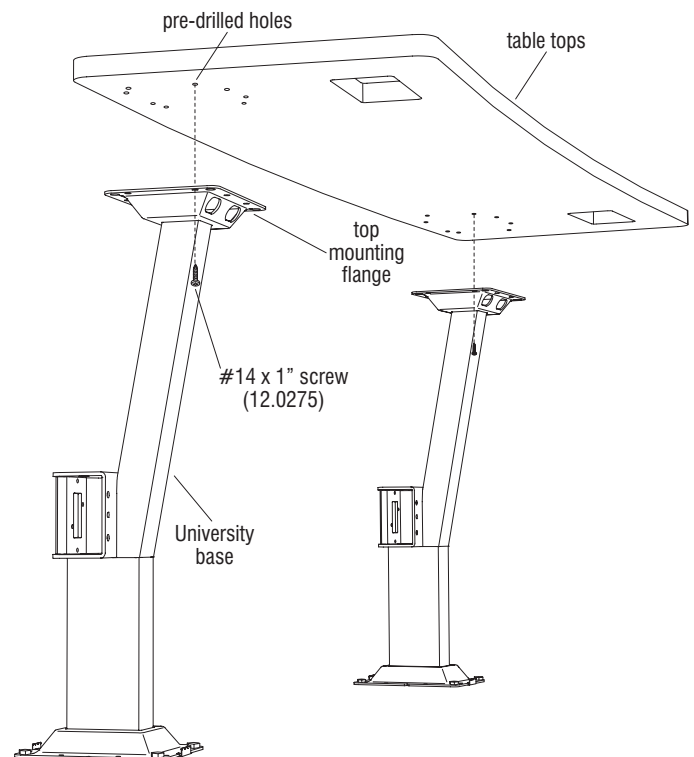

Figure 5
11. For University table tops with no power, carefully position the table top(s) onto the University bases, at the proper location according to the space-planning layout. Fasten each top mounting flange of the base to the table top with **one** #14 x 1” screw provided and torque to 100 in/lbs. Make sure to pre-drill holes to 1/2” in depth or less to avoid piercing through table top (Figure 5).
For University table tops with undersurface power & data, carefully position the table top(s) onto the University bases, at the proper location according to the space-planning layout. Fasten each top mounting flange of the base to each table top with **one** #14 x 1” screw provided and torque to 100 in/lbs. Make sure to pre-drill holes to 1/2” or less in depth to avoid piercing through the table top (Figure 5).
16. For University table tops with PowerUp, carefully position the table top(s) onto the University bases, at the proper location according to the space-planning layout. Use the mounting holes of the top mounting flange as a guide to pre-drill holes into the underside of the worksurface to 1/2” depth or less. Take care to not drill too deep and pierce through the table top. Use tape on the drill bit as a depth gauge. Fasten each top mounting flange of the base to the table top with **one** #14 x 1” screw provided and torque to 100 in/lbs (Figure 5).